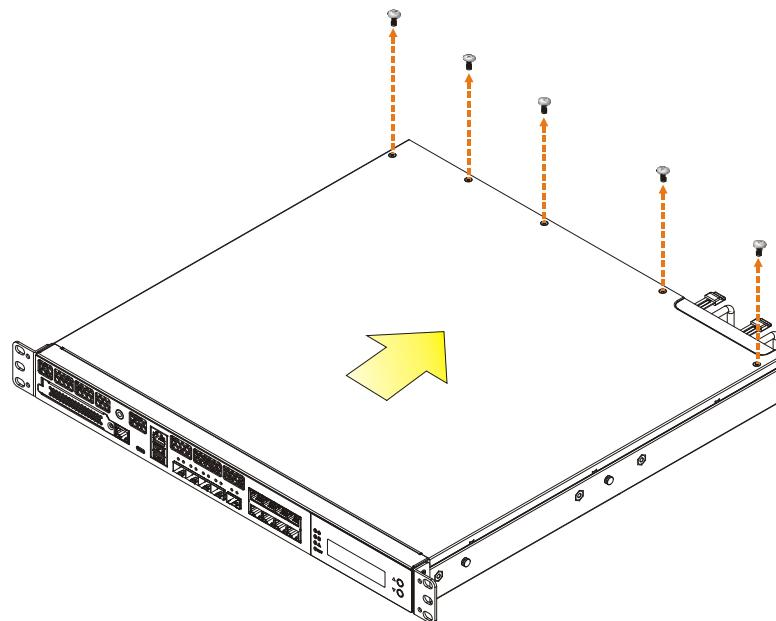

Figure 3-1: Top Cover Removal
Step 1: Remove the five retention screws indicated in **Figure 3-1**.
Step 2: Slide the top cover towards the rear side and gently lift the top cover (**Figure 3-1**).